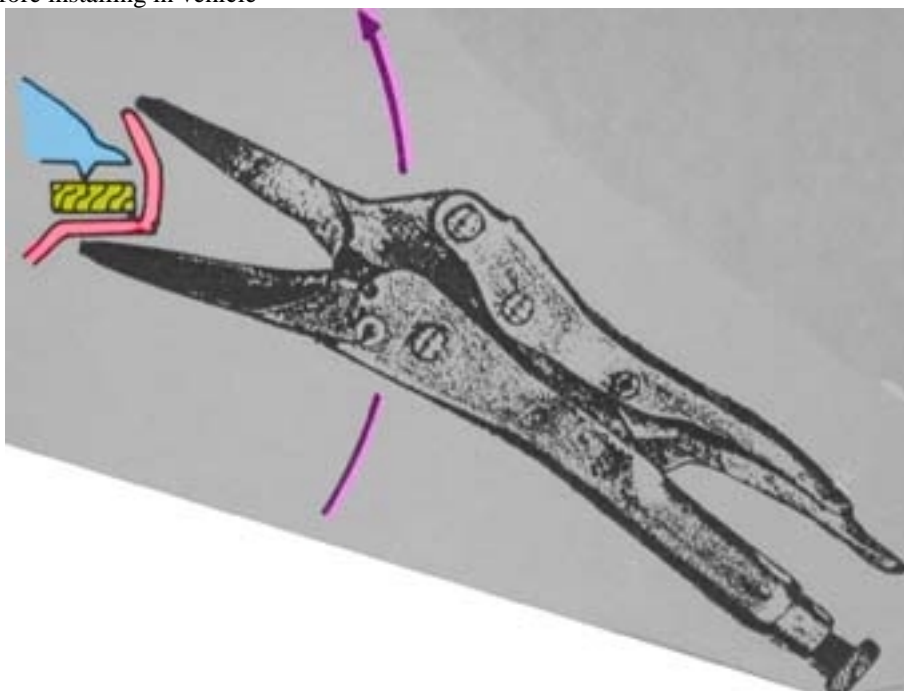

Fig 8 Re crimping
Step 4 Use Visegrip as indicated to bend lip back, See Fig. 8, onto periphery of glass Lenz. Note this is a gradual process where the lip is bent a little then Vice-grip shifted, lip bent again and so on until returning to start point.